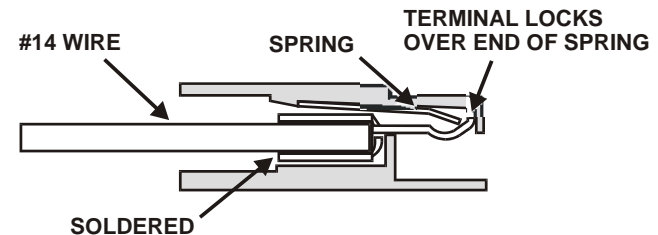

Figure 26. Inserting Terminal into Anderson Connector Housing.
- Orient each contact as shown in Figure 26 and push it into a shell until it “clicks” in place. Tug on the wire to be sure it is locked in place. If the contact comes out, you probably have it in upside down.